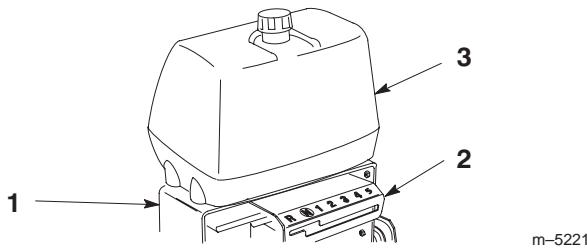

Figure 2
2. Slide the control panel over the shift lever and under the bottom of the rear frame (Fig. 2).
- Align fuel tank with the top of the rear frame (Fig. 2).